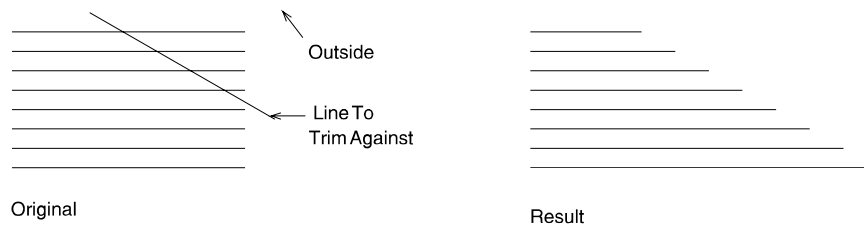

Figure 12.3: Trimming entities to a trim line
3. Click anywhere on the outside of the trim line; this will be the side that will be trimmed (see Figure 12.3).